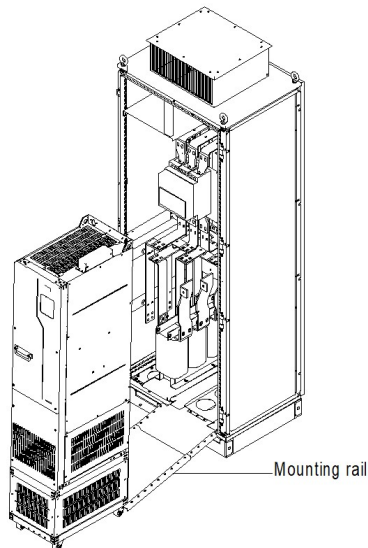

Figure 4-15 Aligning the VFD casters with the mounting rail
- To ensure safety, arrange two people to push the VFD into or out of the cabinet. See Figure 4-15 and Figure 4-16.
4	Arrange two people to align the VFD casters with the mounting rail and push the VFD to the cabinet. (See Figure 4-15 and Figure 4-16. Use the auxiliary rope for mounting to prevent the VFD from side tipping during the push-in or push-out.)